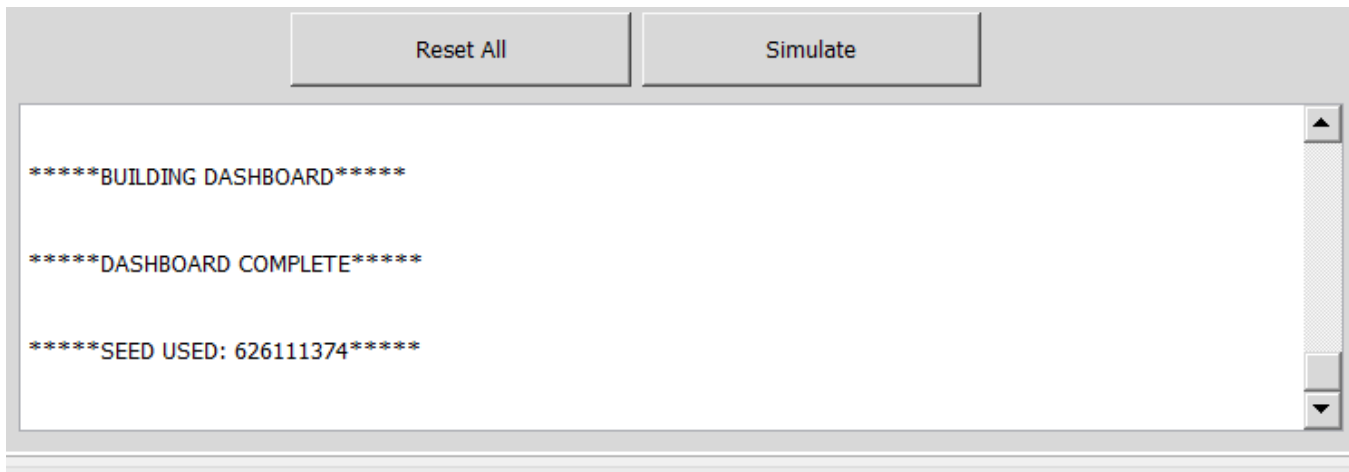

Figure 5.3: Random Seed
- Figure 5.3: AdvancedSettings.png (Page 5)